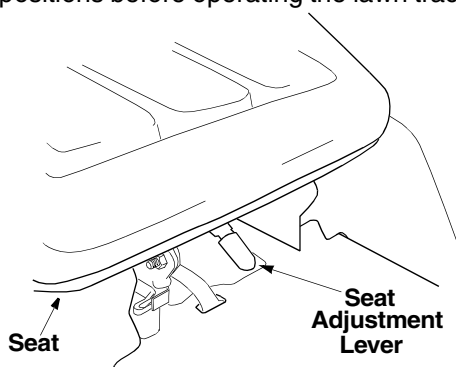

Figure 12
- To adjust the position of the seat, move the seat adjustment lever (located under the seat) to the left and slide the seat forward or backwards. See Figure 12 . Make sure seat is locked into one of the six positions before operating the lawn tractor.